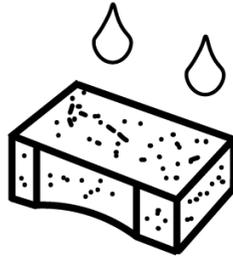

Figure 28
- Oil the filter carefully, Fig. 28. Use engine oil.